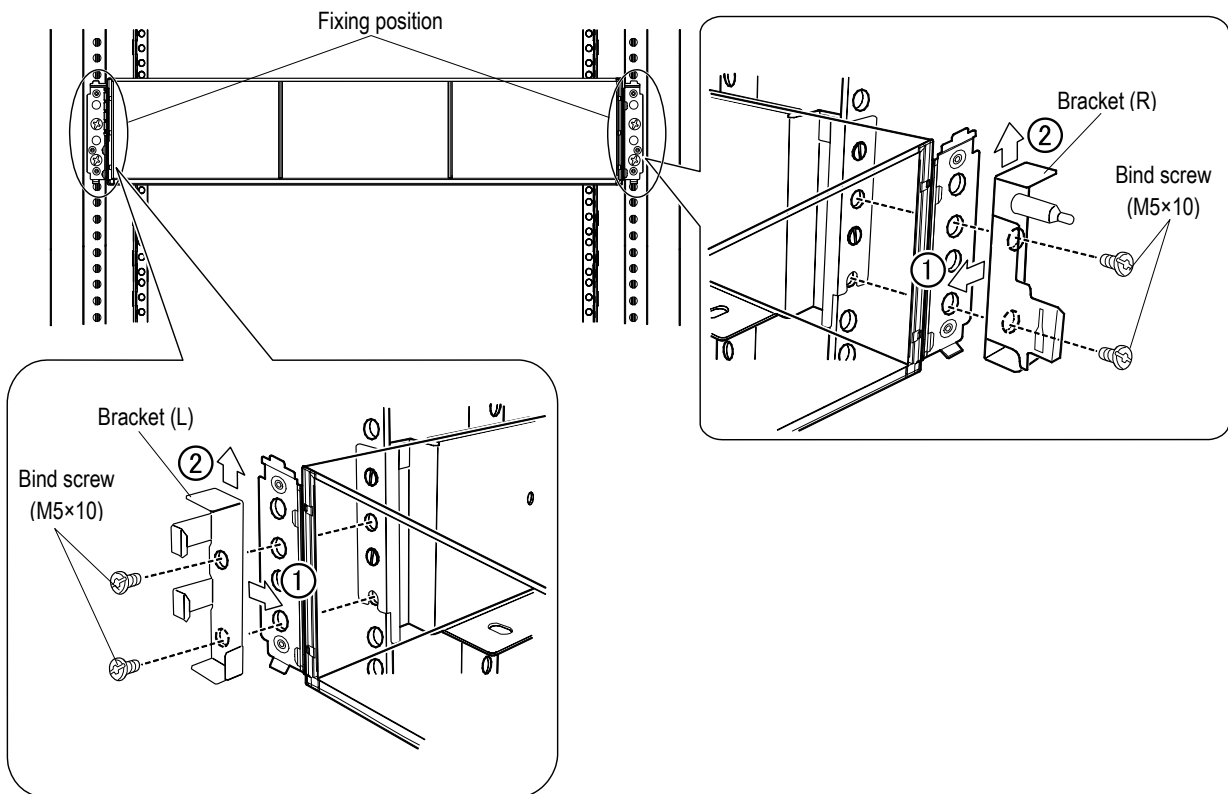

Figure 2.4.19 Fixing the Front Side of the Array (Controller Box (2U), Drive Box (2U))
(i) Install the array with the bracket (Refer to Figure 2.4.19).
(ii) Tighten the bind screws pressing the bracket in the direction of ① and ② to fix the bracket (Refer to Figure 2.4.19).